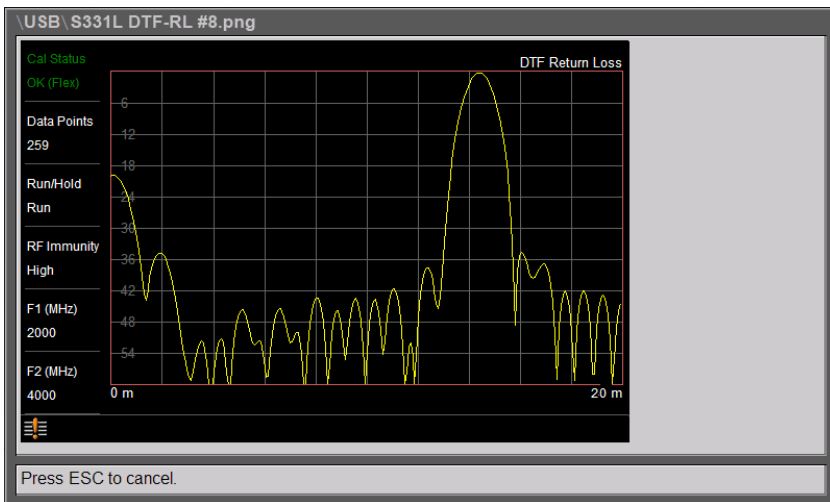

Figure 8-12. Preview of a Recalled Screen Shot
- A preview screen displaying the selected screen shot is illustrated in Figure 8-12. Press **ESC** to return to the File Recall menu.